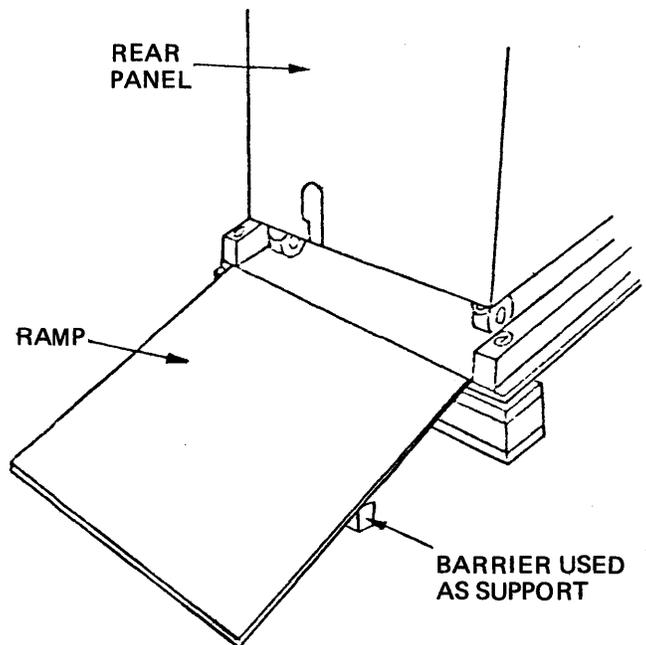

Figure 6-3. Ramp
9. Take plywood piece and place on step to form a ramp. (Plywood piece is packed loose in box). See figure 6-3. Use barrier to support the centre of the ramp.